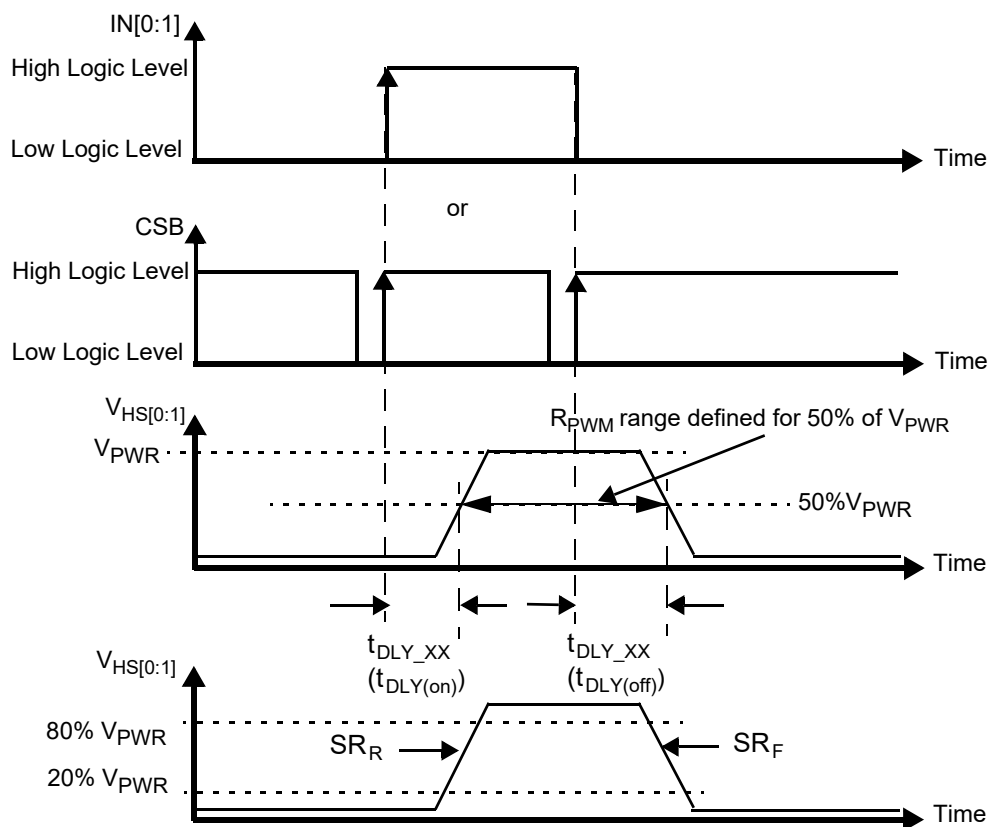
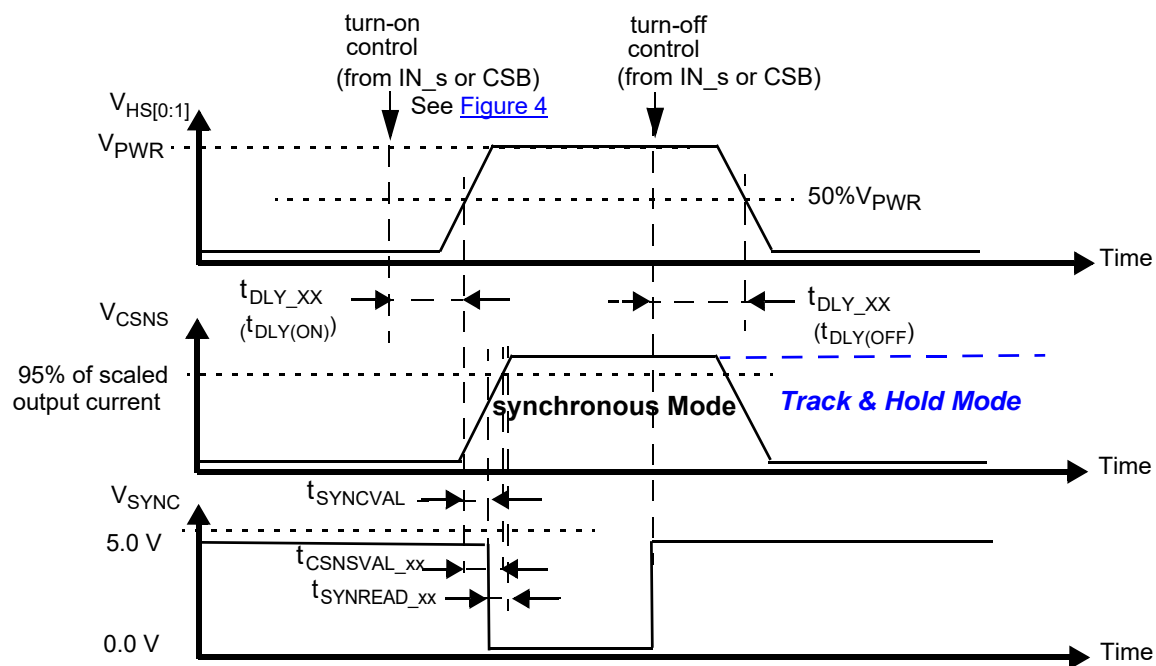

Figure 4. Output voltage slew rate and delay
Figure 9. Synchronous and Track & Hold current sensing modes: associated delay and settling times
27. Rising and Falling edge slew rates specified for a 20 % to 80 % voltage variation on a $10.0\text{ }\Omega$ resistive load (see Figure 4).
29. Time required to switch off the channel after detection of overtemperature (OT), overcurrent (OC), SC or UV error (time measured between start of the negative edge on the FSB pin and the falling edge on the output voltage until $V(HS[0:1]) = 50\%$ of V_{PWR}).
30. Settling time ($= t_{CSNSVAL_XX}$), SYNC output signal delay ($= t_{SYNVAL_XX}$) and Read-out delay ($= t_{SYNREAD_XX}$) are defined for a stepped load current ($100\text{ mA} < I(LOAD) < IOCLX_A_FOR_CSNS_RATIO_S = 1$, AND $300\text{ mA} < I(LOAD) < IOCLX_A_FOR_CSNS_RATIO_S = 0$). (see Figure 9 and Output current monitoring \(CSNS\)).
To synchronize current sensing with an external process, the SYNC signal can be connected to a digital input of an external MCU. SYNC is asserted logic low when the current sense signal is accurate and ready to be read. The current sense signal on the CSNS pin has the specified accuracy $t_{SYNCREAD_XX}$ seconds after the falling edge on the SYNC pin (Figure 9) and remains valid until a rising edge is generated. The rising edge that is generated by the SYNC pin at the turn-OFF instant (internal or external) may also be used to implement synchronization with the external MCU. Parameter $t_{SYNCVAL_XX}$ is defined as the time between the instant at the middle of the output-voltage rising edge ($HS[0:1] = 50\%$ of V_{PWR}), and the instant at which the voltage on the SYNC-pin drops below 0.4 V (V_{SOL}). The SYNC pins of different devices can be connected together to save micro-controller input channels. However, in this configuration, the CSNS function of only one device should be active at a time. Otherwise, the MCU does not determine the origin of the SYNC signal. The SYNC pin is open drain and requires an external pull-up resistor to V_{DD} .